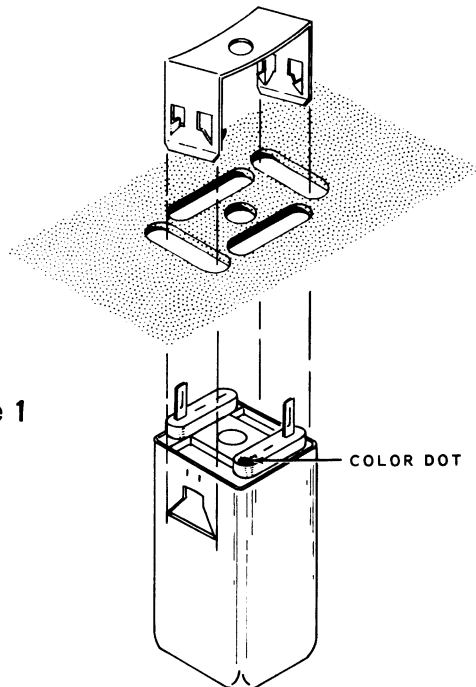

Figure 1
- ( ) Install the high frequency coil (#40-748) at L2 as shown in Figure 1. Push the mounting clip all the way until the teeth lock into the sides of the can.
- ( ) Install the coil selected for L2 as shown in Figure 1.
- ( ) Connect a .02  $\mu$ fd disc capacitor from lug 3 of terminal strip L (S-2) to lug 2 of coil L2 (NS).
- ( ) Connect a 2" hookup wire from lug 2 of coil L2 (NS) to lug 1 of terminal strip B (S-3).